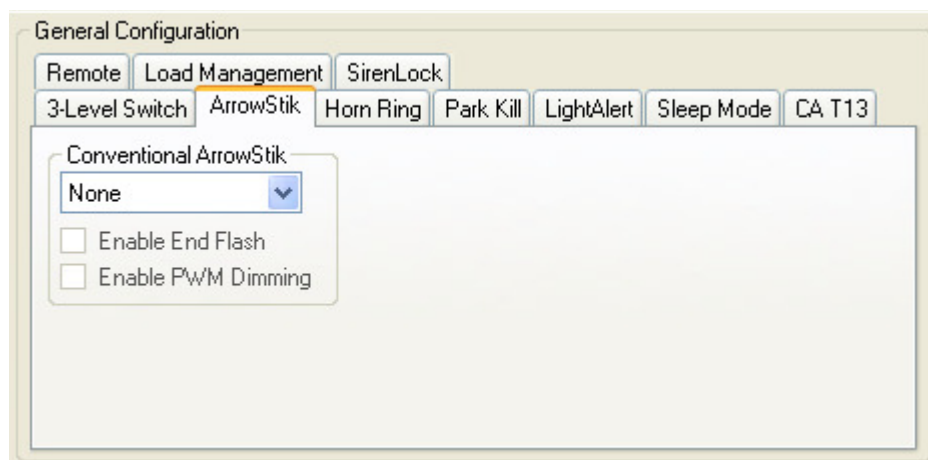

Figure 2
The ArrowStik configurations are for use with a conventional ArrowStik. The default is set for 'None' for use with a Centrally Controlled (CC) ArrowStik (see Figure 2). If a conventional ArrowStik is to be used, select from the following options. Once these options have been selected, the flash rate and pattern can be selected by clicking on the ArrowStik push-buttons.